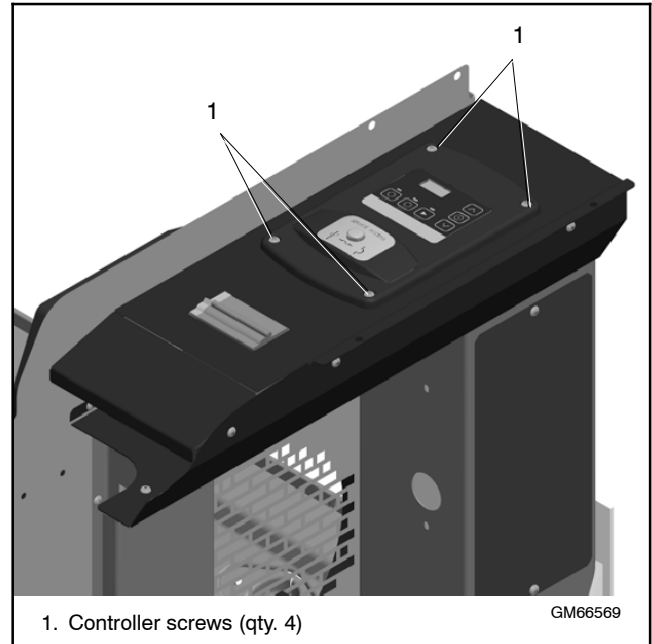

Figure 3 Controller Mounting Screws
7. Remove the four (4) screws securing the controller and *carefully* lift the controller. See Figure 3.